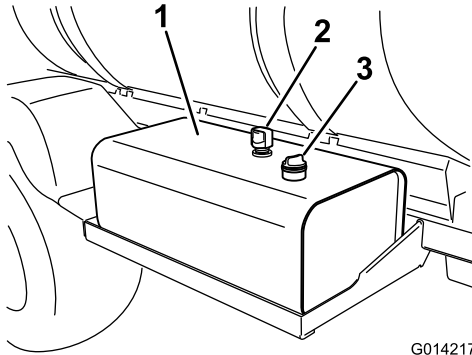

Figure 58
3. Clean the area around the hydraulic oil tank dipstick cap and remove it (Figure 58).